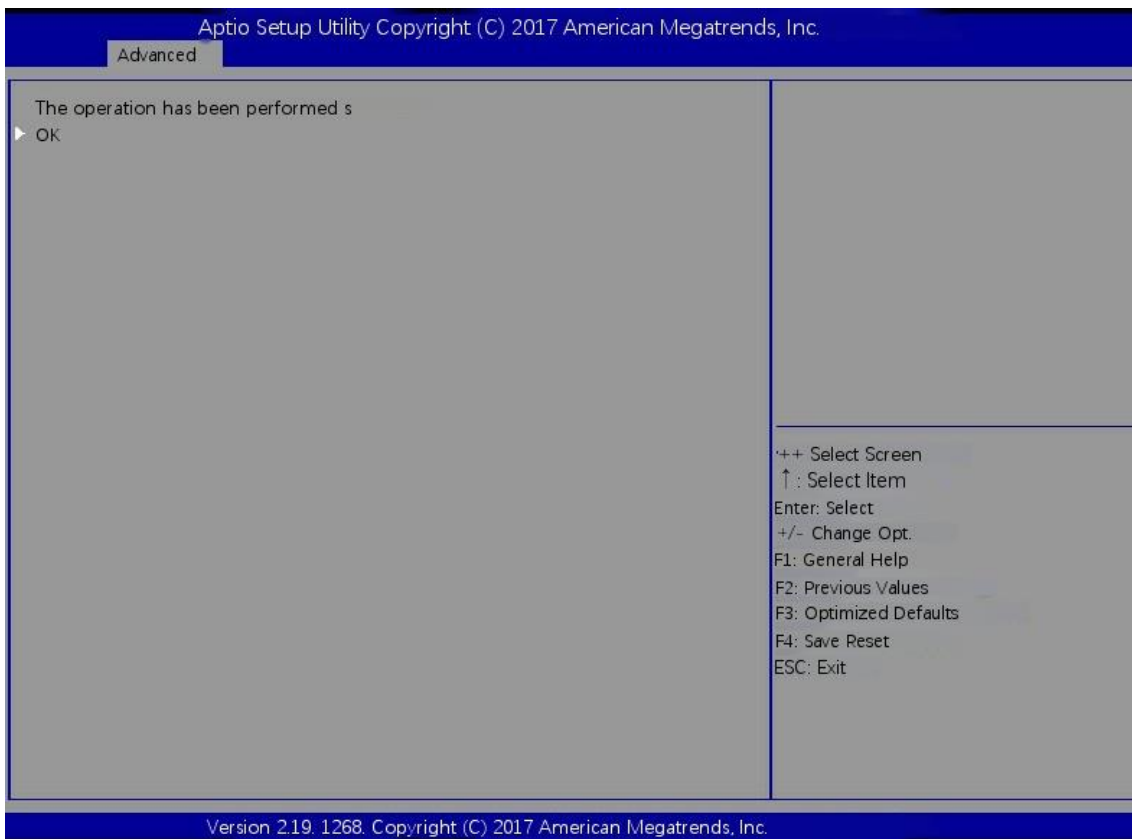

Figure 6-15
- i) Enter the interface shown in Figure 6-15, complete the RAID configuration operation, and select OK to return to the raid card configuration interface.